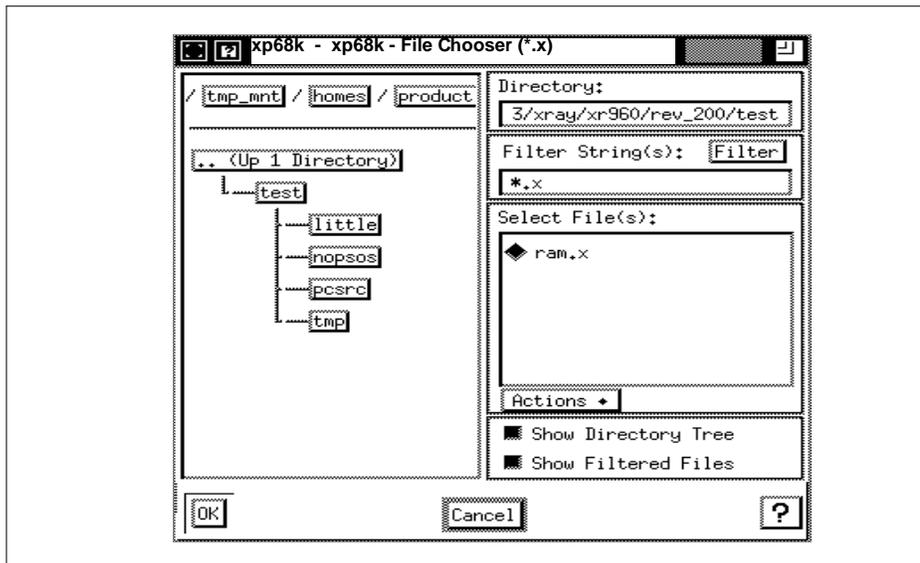

Figure 4-10 File Chooser
4. Select File Chooser and the dialog shown in Figure 4-10 appears. The default in the **File Chooser** dialog is files with a **.x** extension .